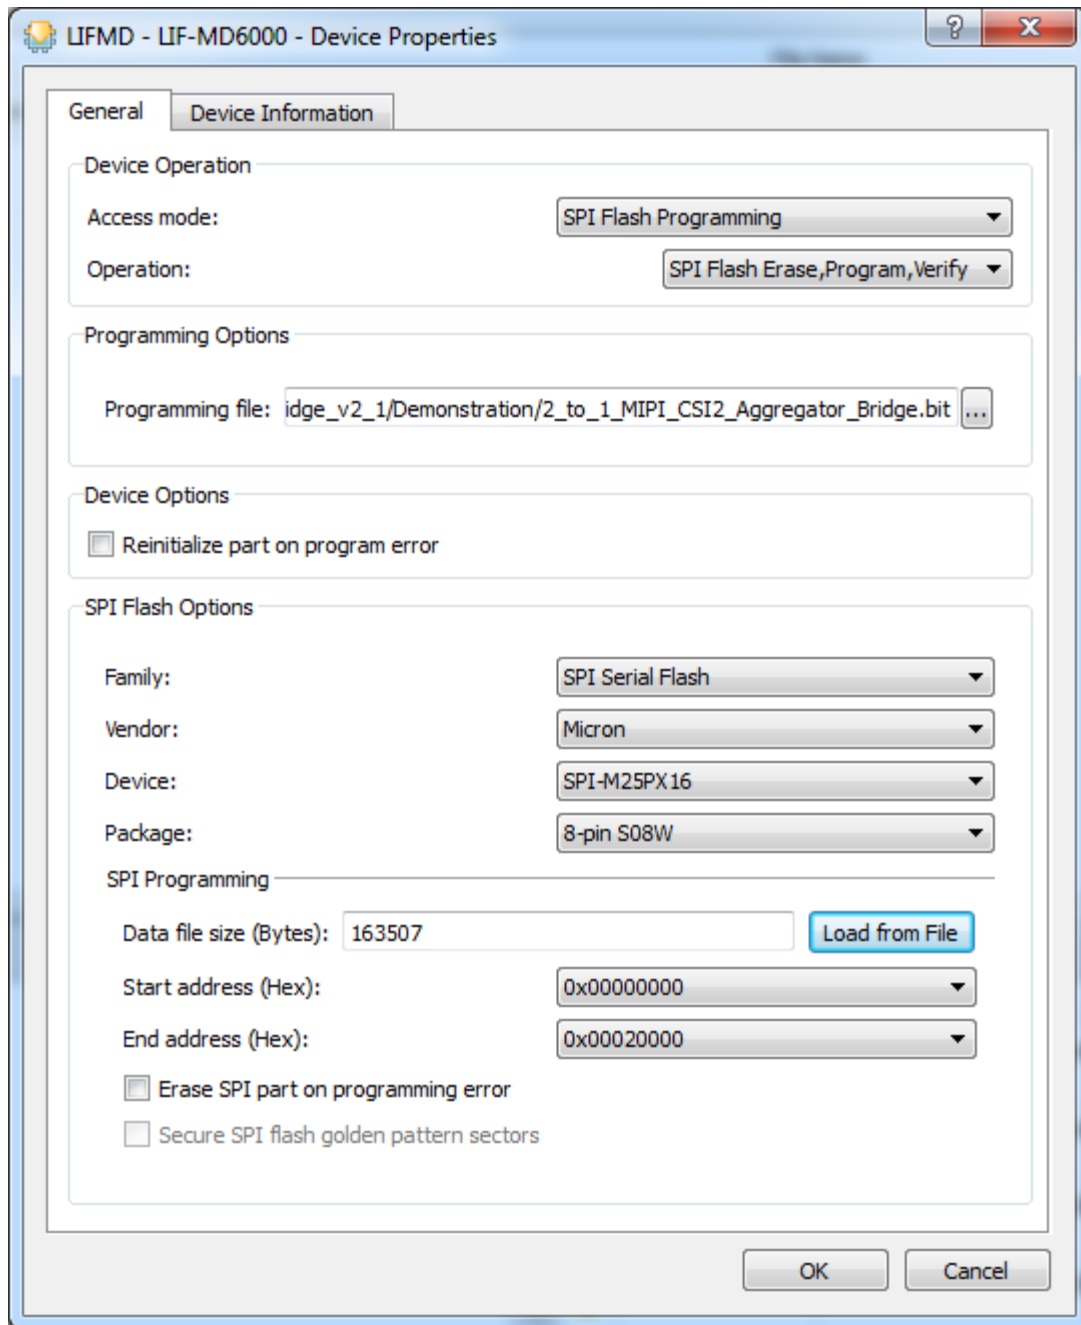

Figure 4.10. LIF-MD6000 Device Properties
6. Select the options for the External SPI Flash on the board as shown in Figure 4.10.